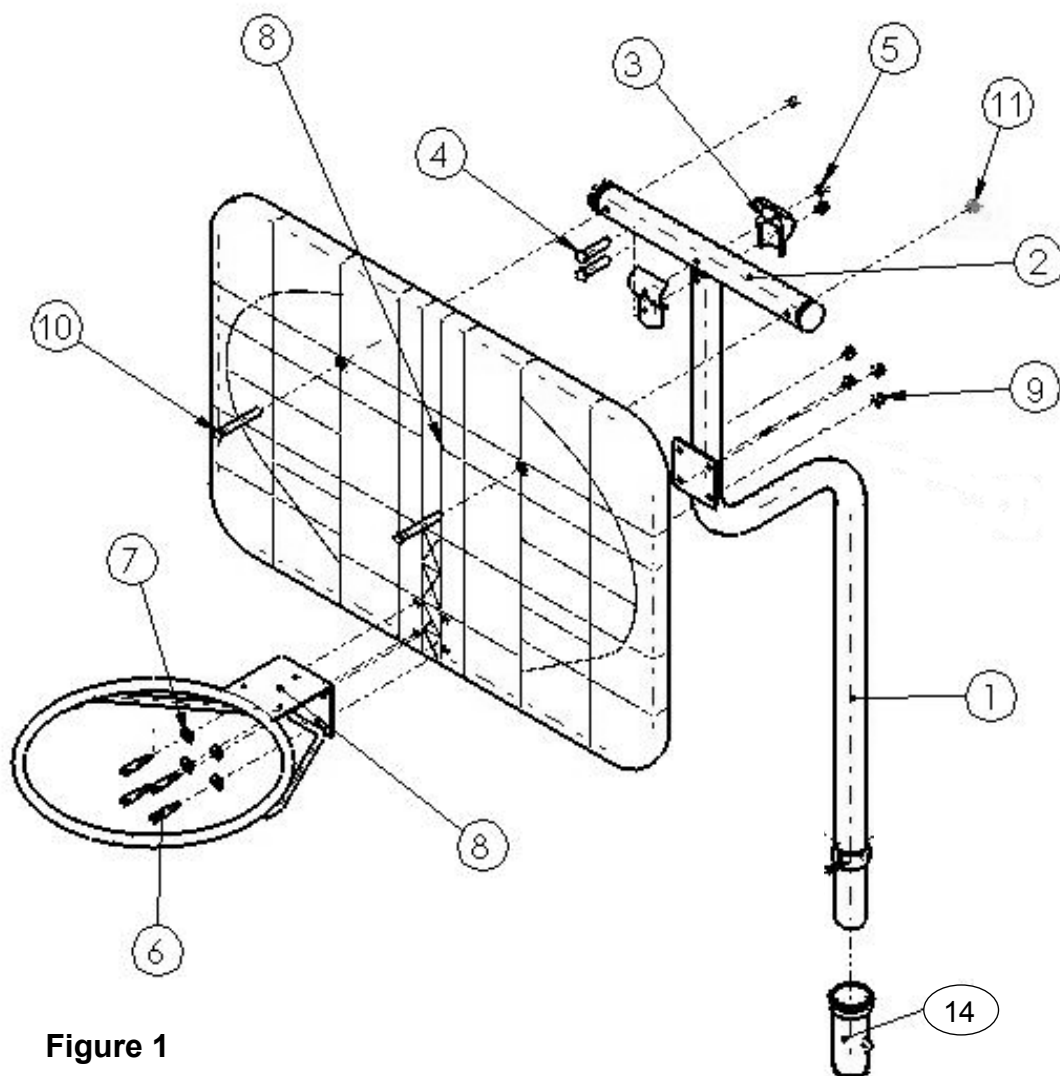
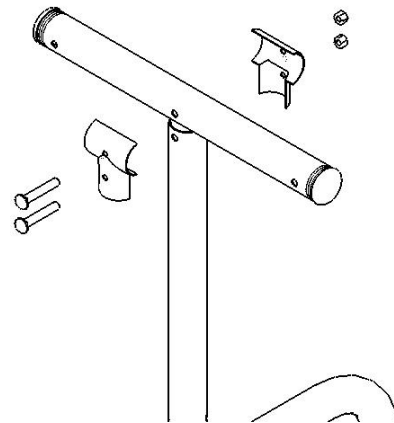

Figure 1
FIGURE 2
1. Begin by locating the frame assembly and the horizontal support tube as shown in **FIGURE 1**. Attach the horizontal support tube to the frame assembly with the stainless steel split tees and hardware as shown in **FIGURE 2**